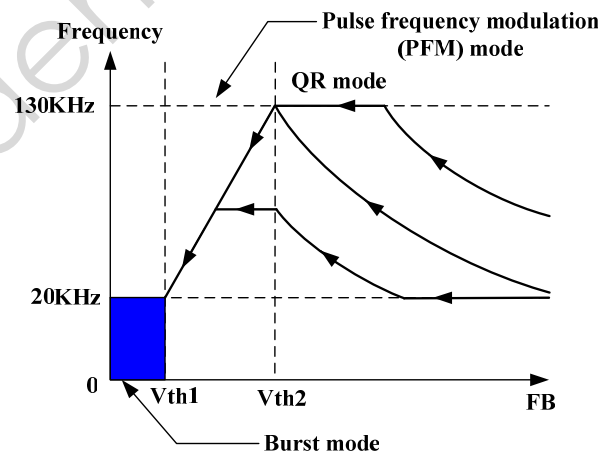

Figure 1
■ Under normal operating conditions ($FB > V_{th2}$, Figure 1), the system operates in QR mode. The frequency variation in QR mode is limited to the range of 20KHz ~ 130KHz due to the fact that frequency varies depending on the line voltage and the load conditions. System design should be optimized such that the operation frequency is within the range specified at full loading conditions and in universal AC line input range.
■ At light load condition ($V_{th1} < V_{FB} < V_{th2}$, Figure 1), the system operates in PFM (pulse frequency modulation) mode for high power conversion efficiency. In PFM mode, the “ON” time in a switching cycle is fixed and the system modulates the frequency according to the load conditions. Generally, in flyback converter, the decreasing of loading results in voltage level decreasing at FB pin. The controller monitors the voltage level at FB and control the switching frequency. However, the